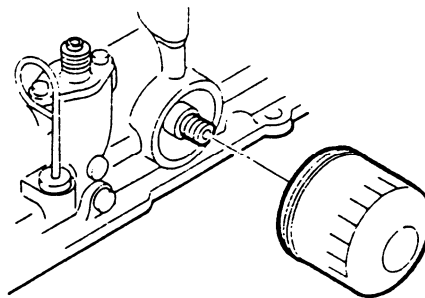

Fig. 7.1
(2) Change oil filter (Fig. 7.1):